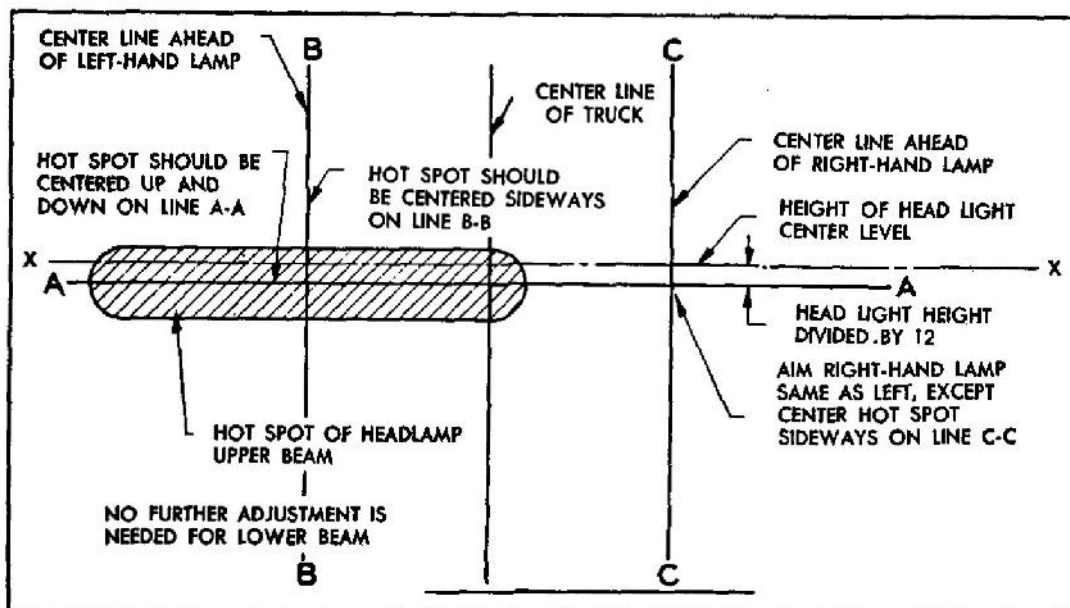

Figure 43. (Superseded) Headlight aiming.
(2) (Superseded) *Aiming adjustment procedure* (fig. 43).
- (b) Measure the height of the headlight center from the floor, and mark a horizontal line at this height on the vertical surface (line X — X, fig. 43).